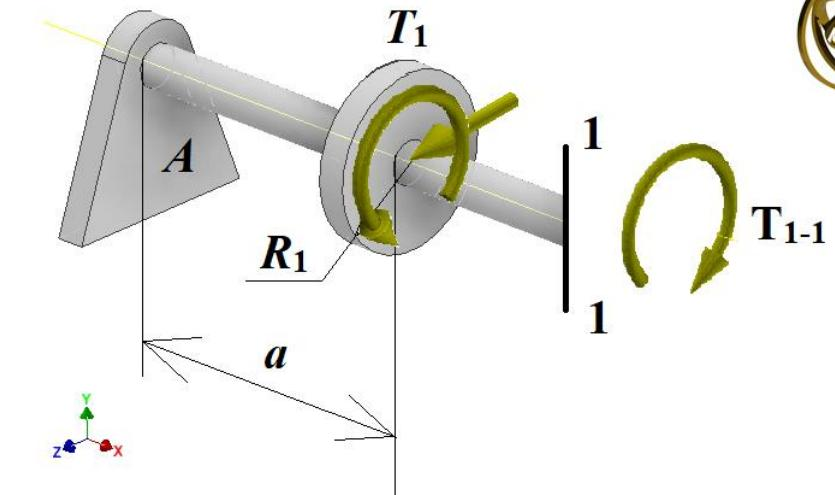

Fig. 3 – Section 1-1
3. Determine internal torques in all shaft sections. Torques in sections with **lengths a and d** are **0**. Create free-body diagrams (Figs. 3, 4) for sections 1-1 and 2-2. Analyze their equilibrium.